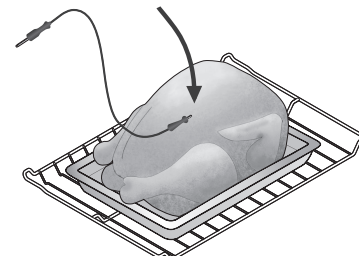

Figure 18: Probe in thickest part of breast
- For whole poultry or turkey, fully insert the probe sensor into the thickest part of the breast (See Figure 18).